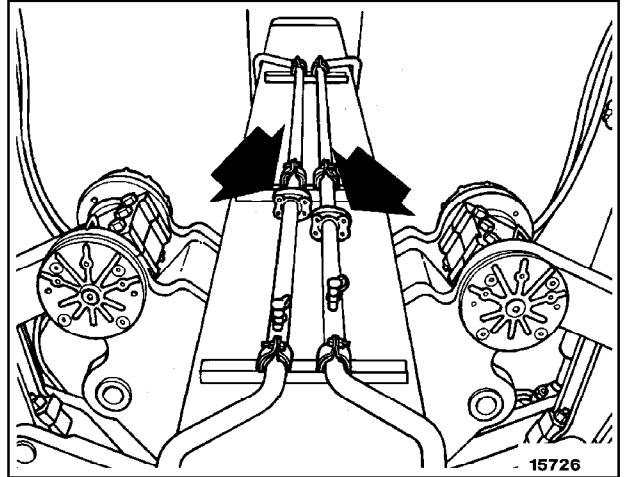

Figure 69 SPLIT FLANGE CONNECTIONS ON HIGH PRESSURE TUBES LEADING TO H.I.C. VALVE
- Using two split flange plugs (P/N 603 517 C1) and two O-rings (P/N 343 906 R1), block the flow of oil in the high pressure tubes leading to the HIC valve. The split flange connections are located just in front of the forward and reverse test ports (Figure 69).